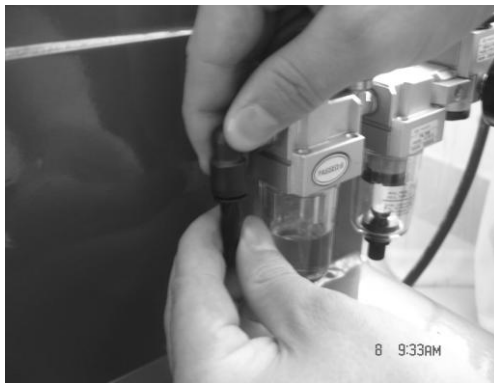

Fig15
3.3.2. Connect the air hose, detach the adapter of the ø8 PU hose on the side of the body. This adapter has the function to avoid the hose from sliding into the body. Insert the adapter into the elbow. See the fig14 and fig15.